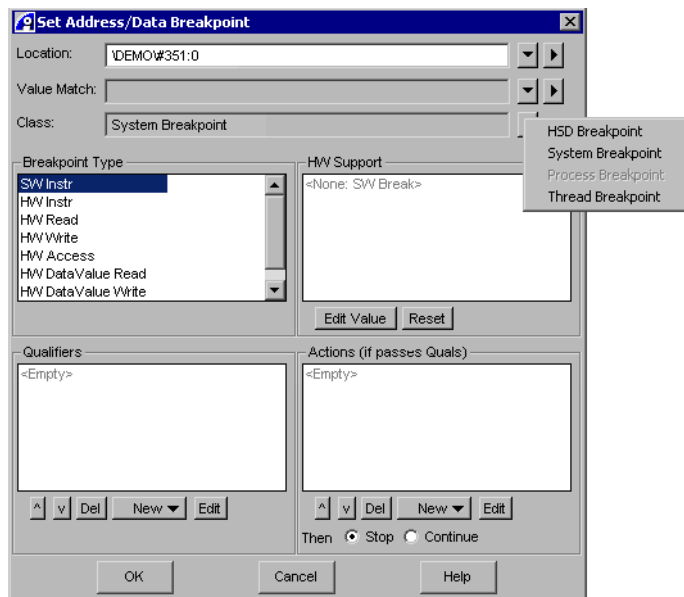

Figure 3-19 RTOS Breakpoint Class selector
2. Select **Set Break...** to display the Set Address/Data Breakpoint dialog box, shown in part in Figure 3-19 on page 3-52.